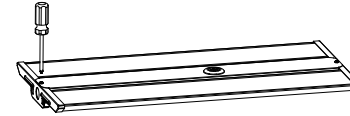

Figure 7
- Step1. Unscrew the two screws on the front of the lamp; (Figure 7)